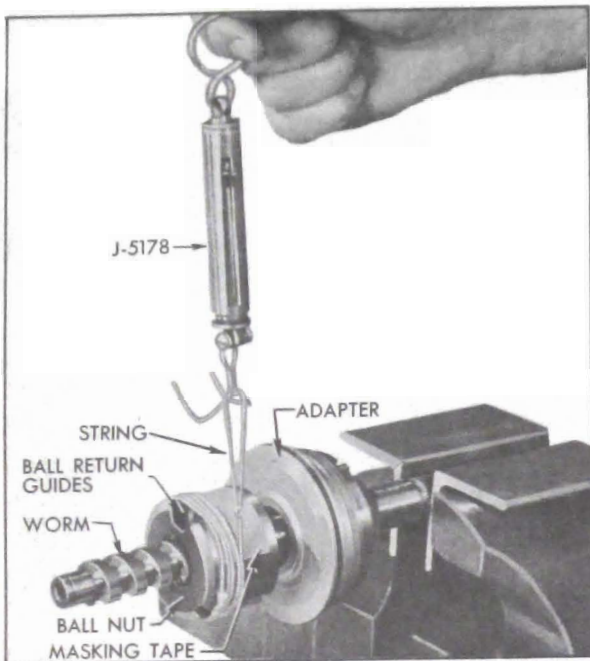

Figure 8-31—Checking High Point Preload J
5. Push guide into guide holes of the ball nut. If the guide does not push down easily, tap it lightly with a soft mallet to seat it. Install ball return guide caps. Wrap a strip of tape around the ball nut and guide to prevent the guide from falling out. See Figure 8-31.
6. The worm groove is ground with a high point in the center. When the ball nut passes over this high point, a preload of 1 to 6 lbs. measured at the edge of the ball nut should be obtained. To measure the preload, clamp the splined end of the worm in a bench vise using copper jaws, fasten a cord to the ball nut and wind it around ball nut two or three times. Attach Spring Scale J 5178 to other end of cord, and slowly pull the other end of scale, unwinding the cord and rotating ball nut over the high point of worm. The highest reading obtained, after nut has started to rotate should be between 1 to 6 lbs. If the load is too small, disassemble and reassemble the next larger ball size and recheck. The ball size is stamped on the end of the ball nut and balls are available in 13 sizes, numbered 1 through 13. If the preload is too great, use the next smaller ball size and recheck. See Figure 8-31.